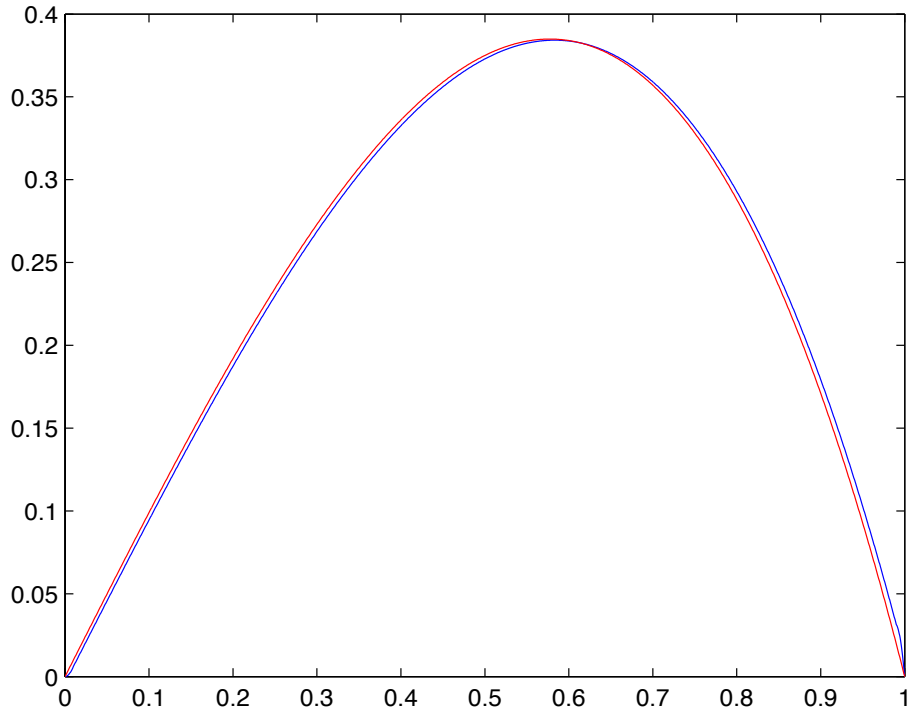

Figure 1: The problem FEM solution (blue) compared to the actual solution (red)
Testing it using  $N = 100$  and plotting against the known solution yields the result seen in figure 1. We can draw the conclusion that the cG(2) method is very accurate.